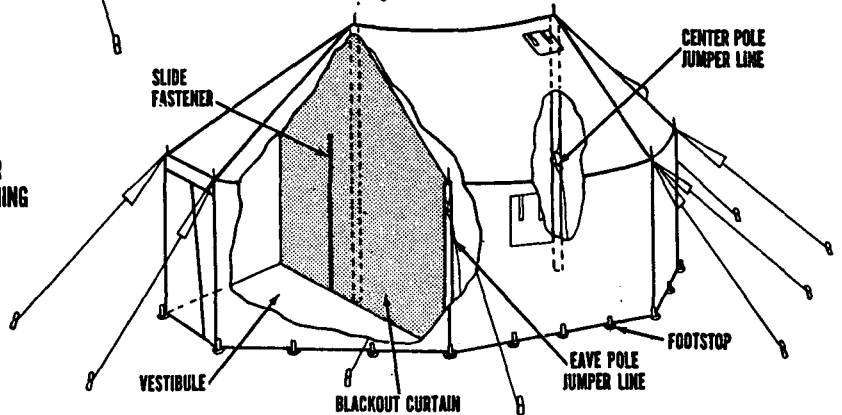
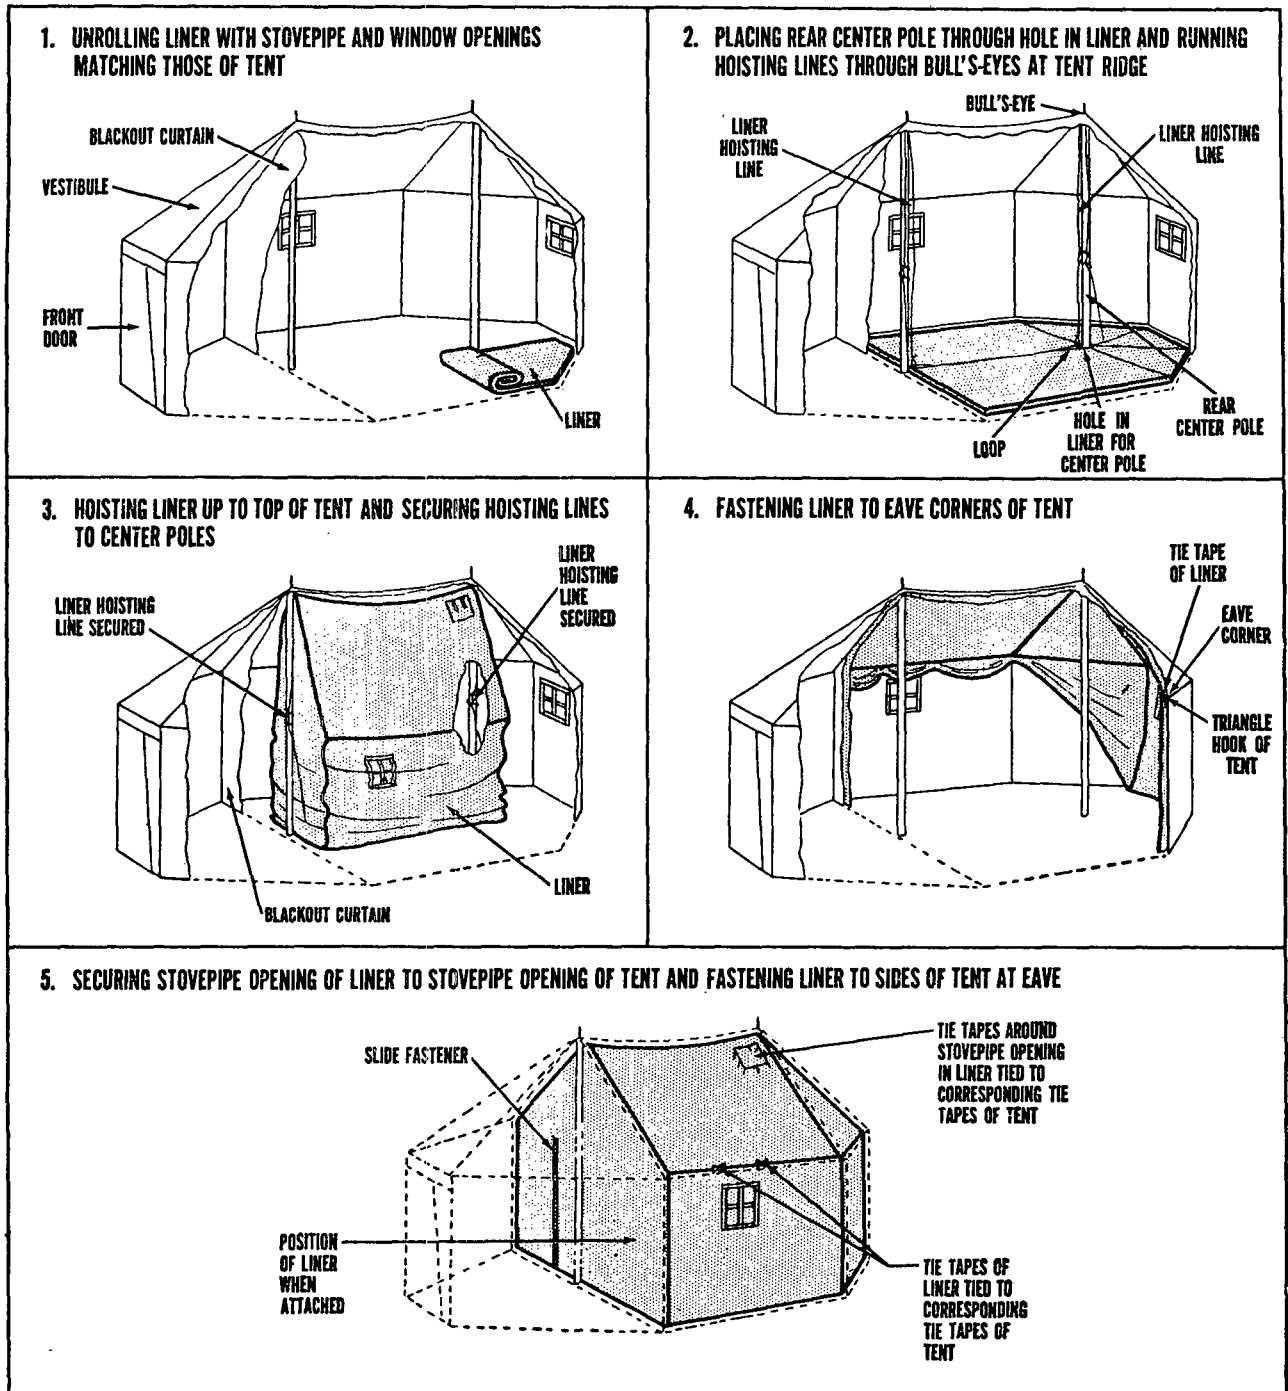

Figure 15. Steps in pitching tent, command post, M-1945.
Figure 16. Steps in attaching liner to tent, command post, M-1945.
- (2) *Material.* The tent is made of 12.29-ounce duck, FWWMR. The canvas is supported on a webbing framework, which carries the weight of the canvas. Fair-leads carry the stress between webbing and eave lines and eliminate friction between eave and eave lines. The tent walls, tent top, and sod cloth are constructed of one piece.
- (3) *Door.* The tent has a door entrance at the front, 6 feet high and 4 feet wide.
- (4) *Blackout curtain.* A nondetachable blackout curtain, with a slide fastener opening (5, fig. 15), is sewed into the body of the tent. The curtain separates the vestibule from the main part of the tent. When the tent is used for a first-aid station, the vestibule space between the door and the blackout curtain is large enough to allow
- (b) Drive a 16-inch pin at each of the eight tent corners. Attach a footstop to each of the four corner pins at front and rear of tent. At each of the four side corners, attach two footstops to one pin (1, fig. 15).
- (d) Attach guy lines loosely to long pins (2, fig. 15).
- (e) Remove corner footstops from 16-inch pins, insert eave poles through eave grommets, and tighten guy lines until poles are vertical (3, fig. 15).
- (f) Raise tent ridge by inserting spindle of a 9-foot pole through hole in metal plate and grommet at ridge at front of tent, and spindle of the other 9-foot pole through hole in metal plate and grommet in other end of ridge (4, fig. 15).
- (g) Secure jumper lines to center poles and to eave poles with two half hitches (5, fig. 15).
- (2) *Attaching liner to tent.*
- (a) Unroll liner so that stovepipe and window openings match those of tent (1, fig. 16).
- through bull's-eyes at tent ridge (2, fig. 16).
- (c) Hoist liner up to top of tent and secure lines to center poles (3, fig. 16).
- (d) Fasten liner to eave corners of tent by tying tie tapes of liner to triangular hooks of tent (4, fig. 16).
stovepipe opening of tent. Tie tie tapes at sides of liner at eave to corresponding tie tapes at sides of tent at eave (5, fig. 16).